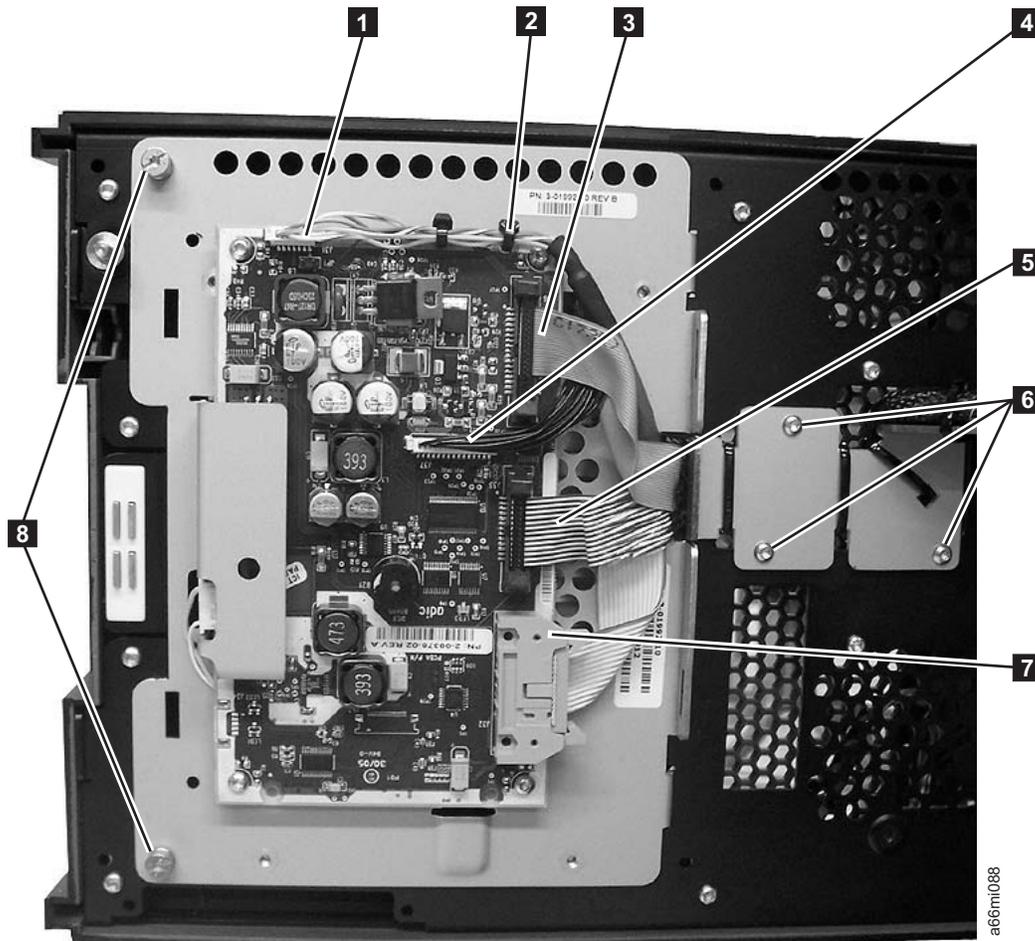

Figure 8-17. Operator Panel cabling
Operator panel problems may be caused by loose connectors. Visually check, and reseat if necessary, all of the connectors on the back of the operator panel (Figure 8-17 on page 8-22), the connector on the back of the I/O Station locking mechanism (**1** in Figure 8-15 on page 8-21), and the connectors that are located between the storage column 4 magazine and the back of the Library Control Blade (**2** and **3** in Figure 8-16 on page 8-21).
4. Disconnect the four cable connectors that are attached to the Operator Panel (see **1** , **3** , **5** , and **7** in Figure 8-17).
5. Cut the cable tie ( **2** in Figure 8-17) if necessary.
6. Unscrew the two captivated screws ( **8** in Figure 8-17) located on the left side of the Operator Panel.